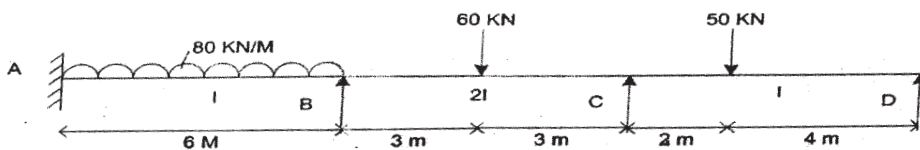

Fig Q.8
- Q8) Analyze the beam as shown in fig.Q.8 by using Flexibility Method. Draw SFD & BMD. [16]